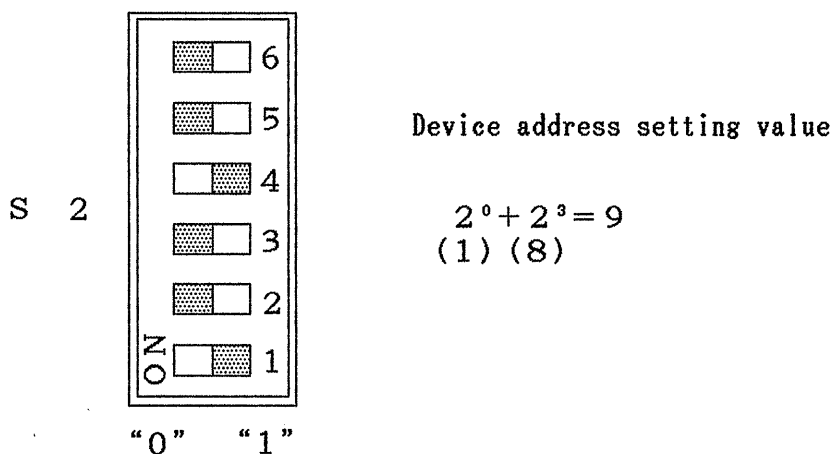

Figure 6-1
- ① Table 6-1 lists the values of S2 and corresponding addresses.
- ② When a switch of S2 is set to ON, the corresponding bit is set to the level of "0".
- ③ Figure 6-1 shows how S2 is set for address "09".